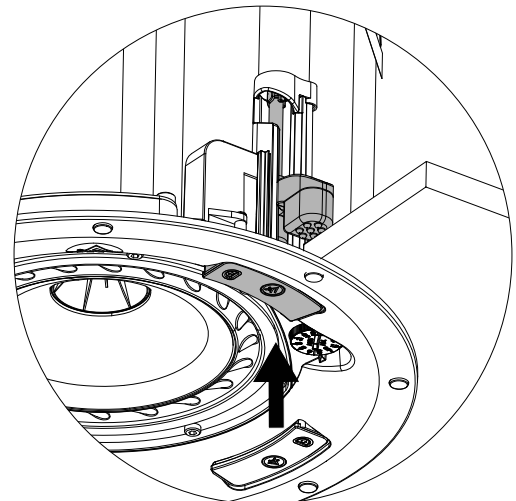

Figure 48
- Push the "T-handle" upwards and align with the locking tab on the handle, placing it back to its default starting position (Figure 48).